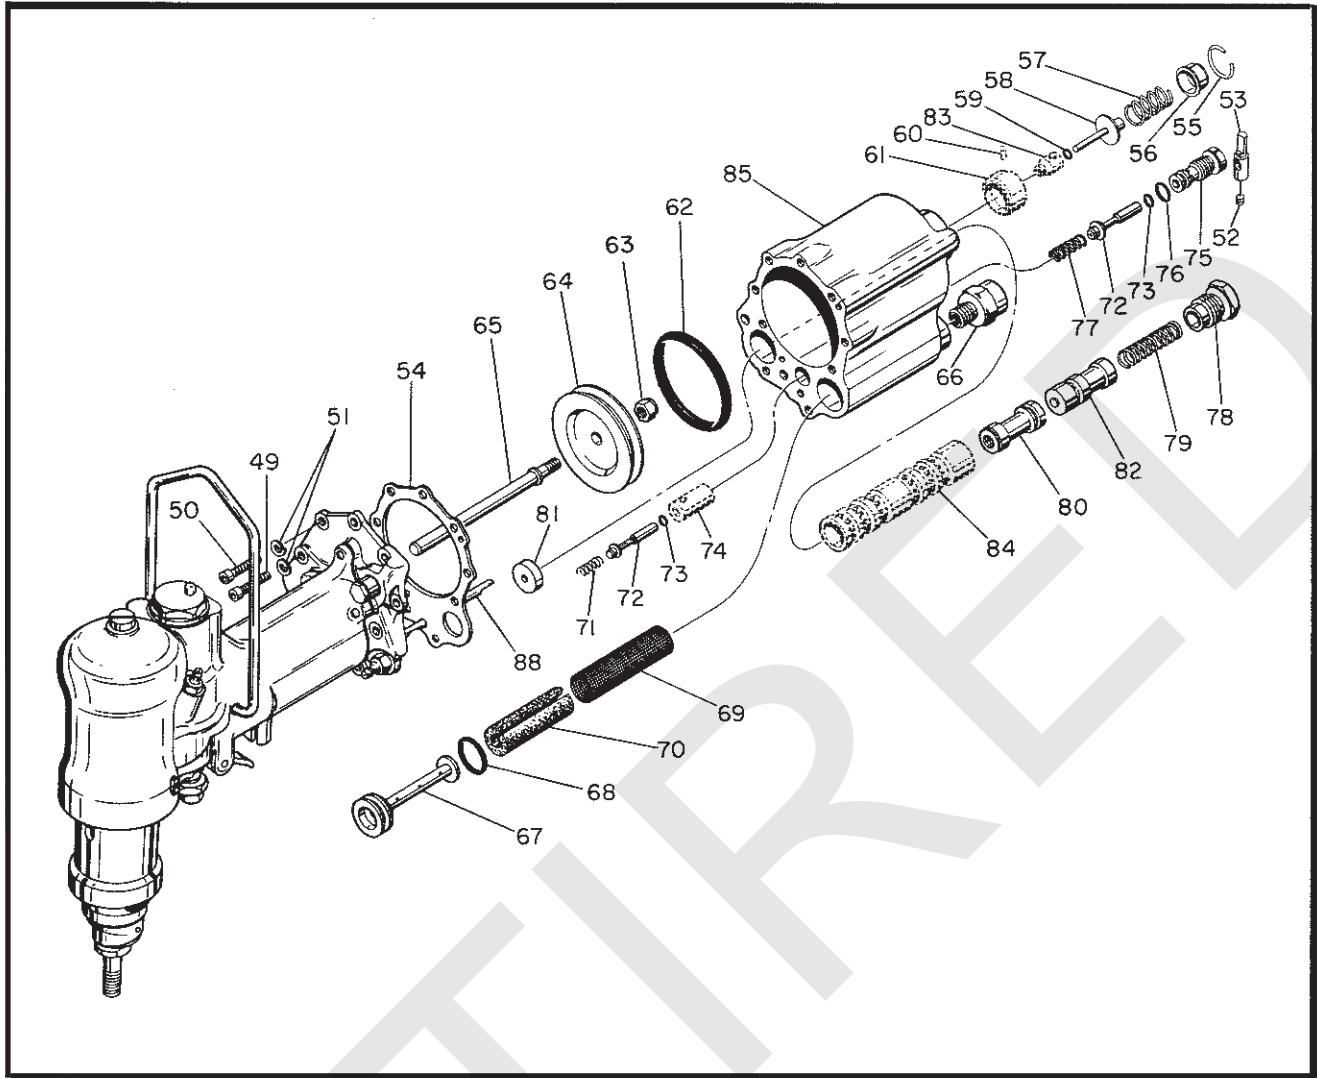
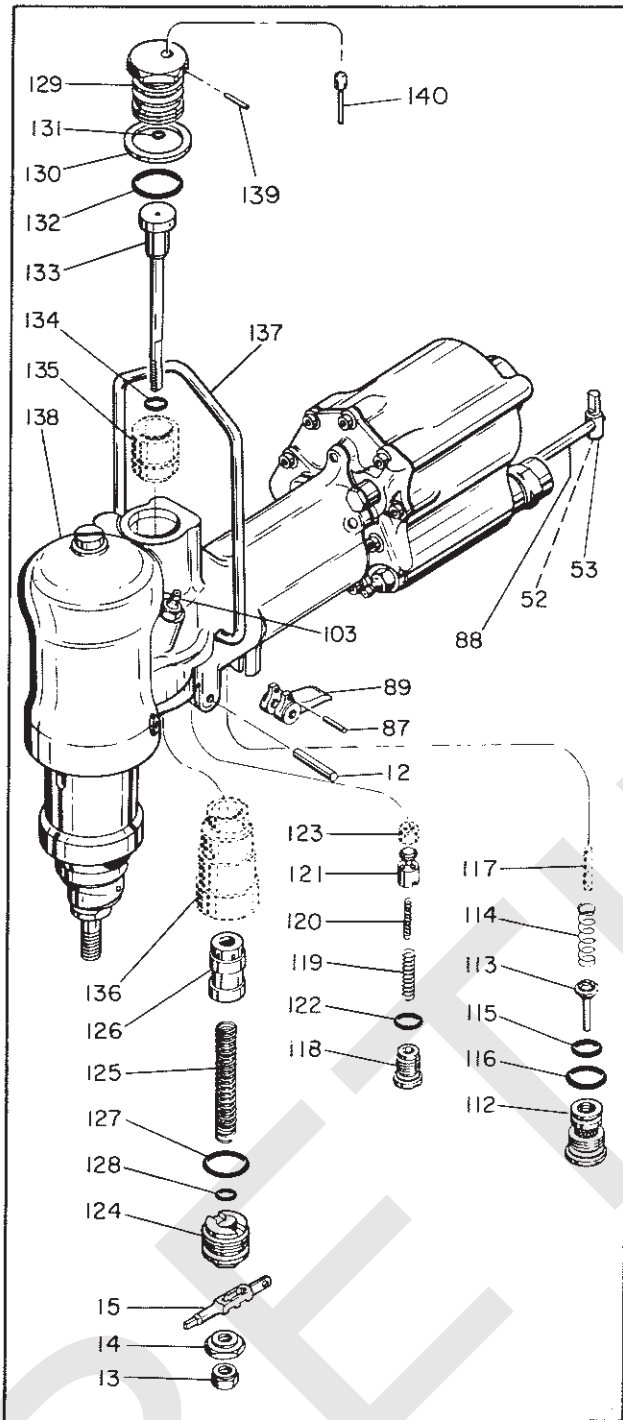

Figure 7. Pump Cylinder Group
Figure 9. Handle and Valve Group
### 3. Pump Cylinder Group. (See figure 7.)
### 5. Handle and Valve Group. (See figure 9.)
1. Do not remove the bushings, shown in phantom on the exploded views, (figures 7, 8, and 9), except when inspection reveals extensive damage or wear. To remove a particular bushing, select the thread tap and extractor, or drift, from the special tools listed in figure 10. Thread the bushing if in a blind hole. Note the alignment of all internal ports and passage ways. New bushing must match this alignment when installed. Remove all O-rings and heat the forging to 240° - 270° F. Pull out the bushing with the appropriate extractor or push out with a drift. Note that the holding piston bushing (135, figure 9) must be removed before adequate space is available for a drift to press out the pressure relief valve bushing (136).
#### 1. Handle and Valve Group. (See figure 9.)
## 3. Pump Cylinder Group. (See figure 7.)